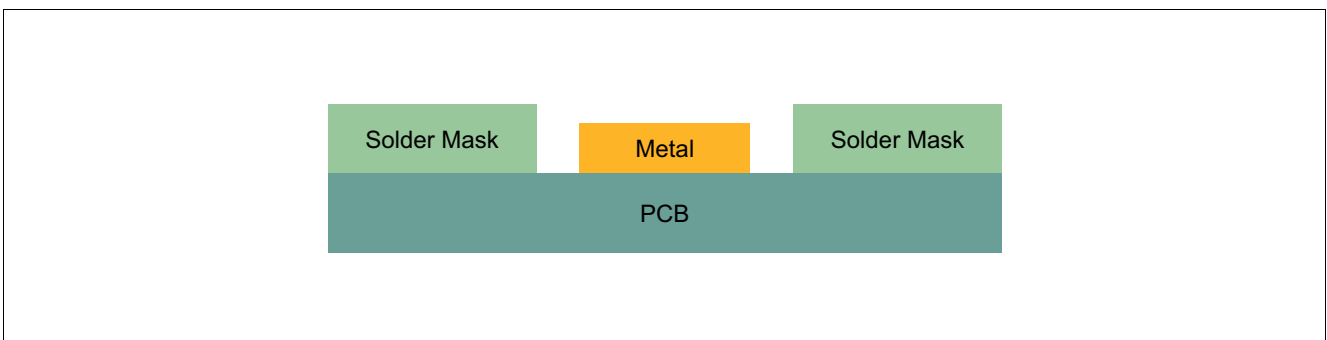

Figure 5 NSMD Pad
- “Non solder mask defined” (NSMD) pad (Figure 5): Around each copper pad there is solder mask clearance. It is necessary to specify the dimensions and tolerances of the solder mask clearance in this way, that no overlapping of the solder pad by solder mask occurs (depending on PCB manufacturers tolerances, 75 µm is a widely used value).